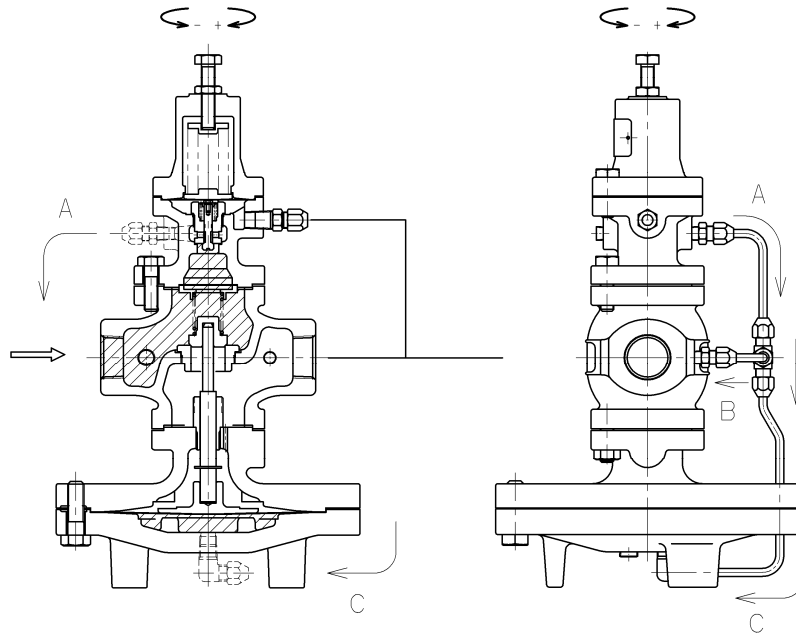

Fig. 2
- (2) Turning adjusting screw [27] clockwise compresses the spring, which flexes pilot diaphragm [23] to open the pilot valve. The fluid passing through pilot valve [17] and pilot valve seat [18] enters the main diaphragm chamber via pipes A [34] and C [36]. This fluid also flows to the reduced side of the body [1] through pipe B [35] and the orifice of joint B [31] that connects to the body. (Fig. 2)